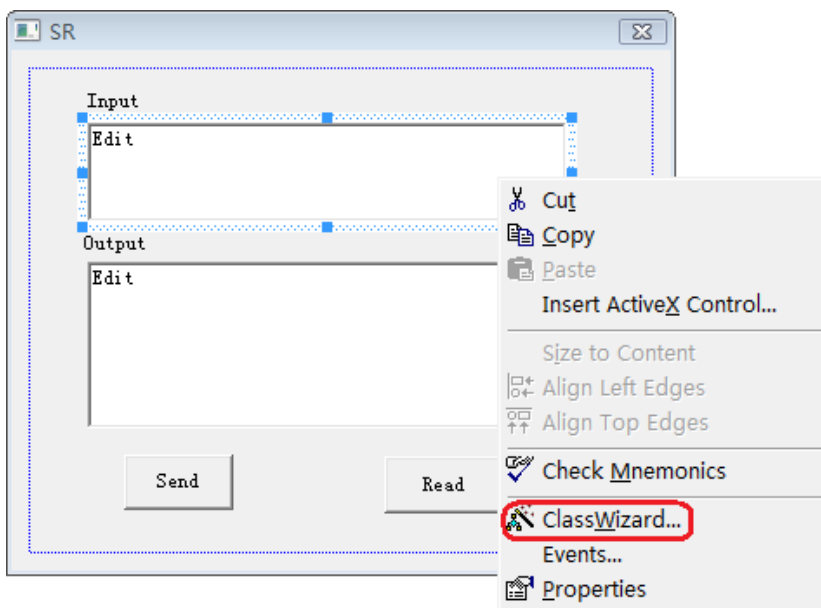
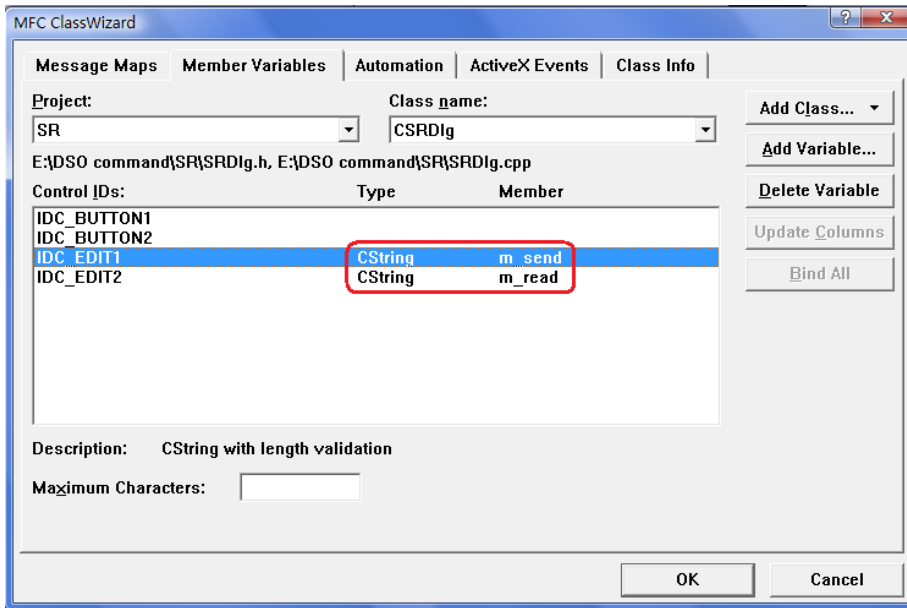

Figure 4-1-5 41
Figure 4-1-6
(1) Add two Static Text controls respectively named as Input and Output.
(2) Add two Edit controls, and then add two variables--m_send and m_read to them respectively. See figure 4-1-5 and figure 4-1-6.